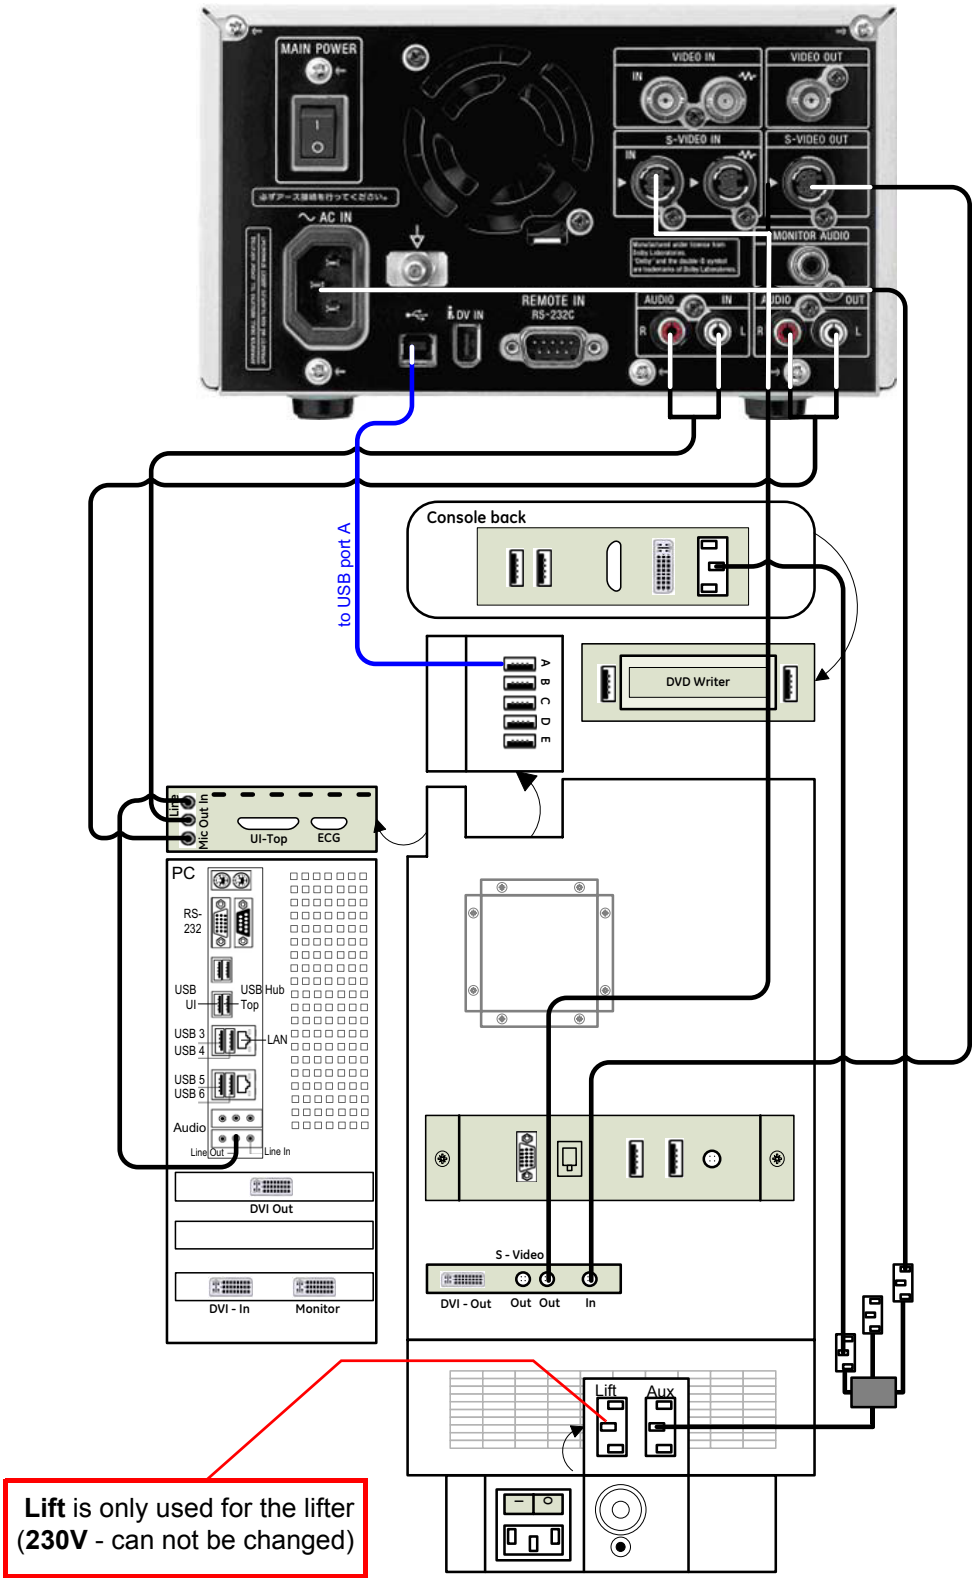

Figure 3-24 DVD Recorder connection (BT08: KONTRON Dual-core PC-Motherboard installed)
- if “**Kontron Dual-core**” PC-Motherboard is installed, see: Figure 3-24 on page 3-32.